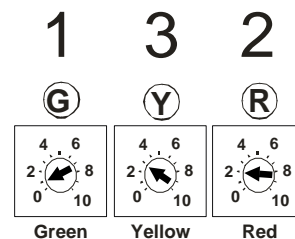

FIGURE 5
7. Remove the door from the Fi2000R module to expose the LED's. **NOTE:** The Fi2000R base pot settings come preset from the factory for the Raider, shown in (Figure 5.) Verify the wire connections by, (1), turning the ignition on while watching the 3 LED's. They will all light up for a few seconds, and then go off. This is correct. – Continued to Page 2.